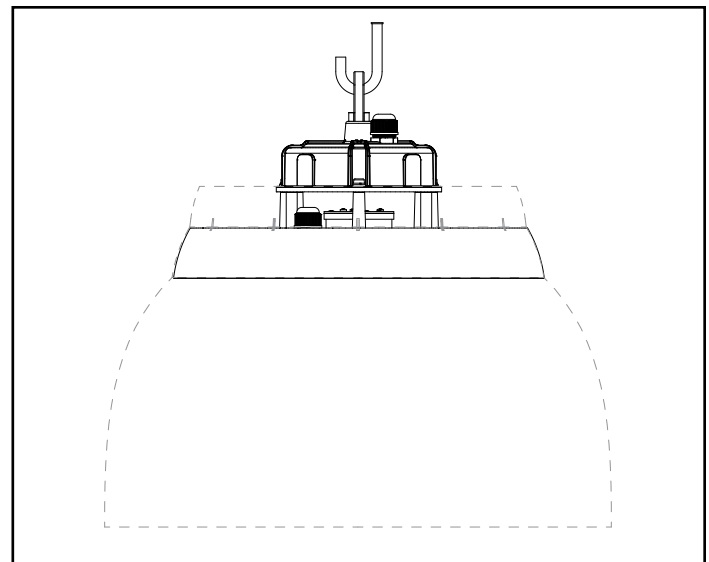

Figure 4.
5. Install sleeve and tighten screw. (Figure 4.) Attach included safety cable to existing or new structure. Do not use cord or wiring to hang fixtures.